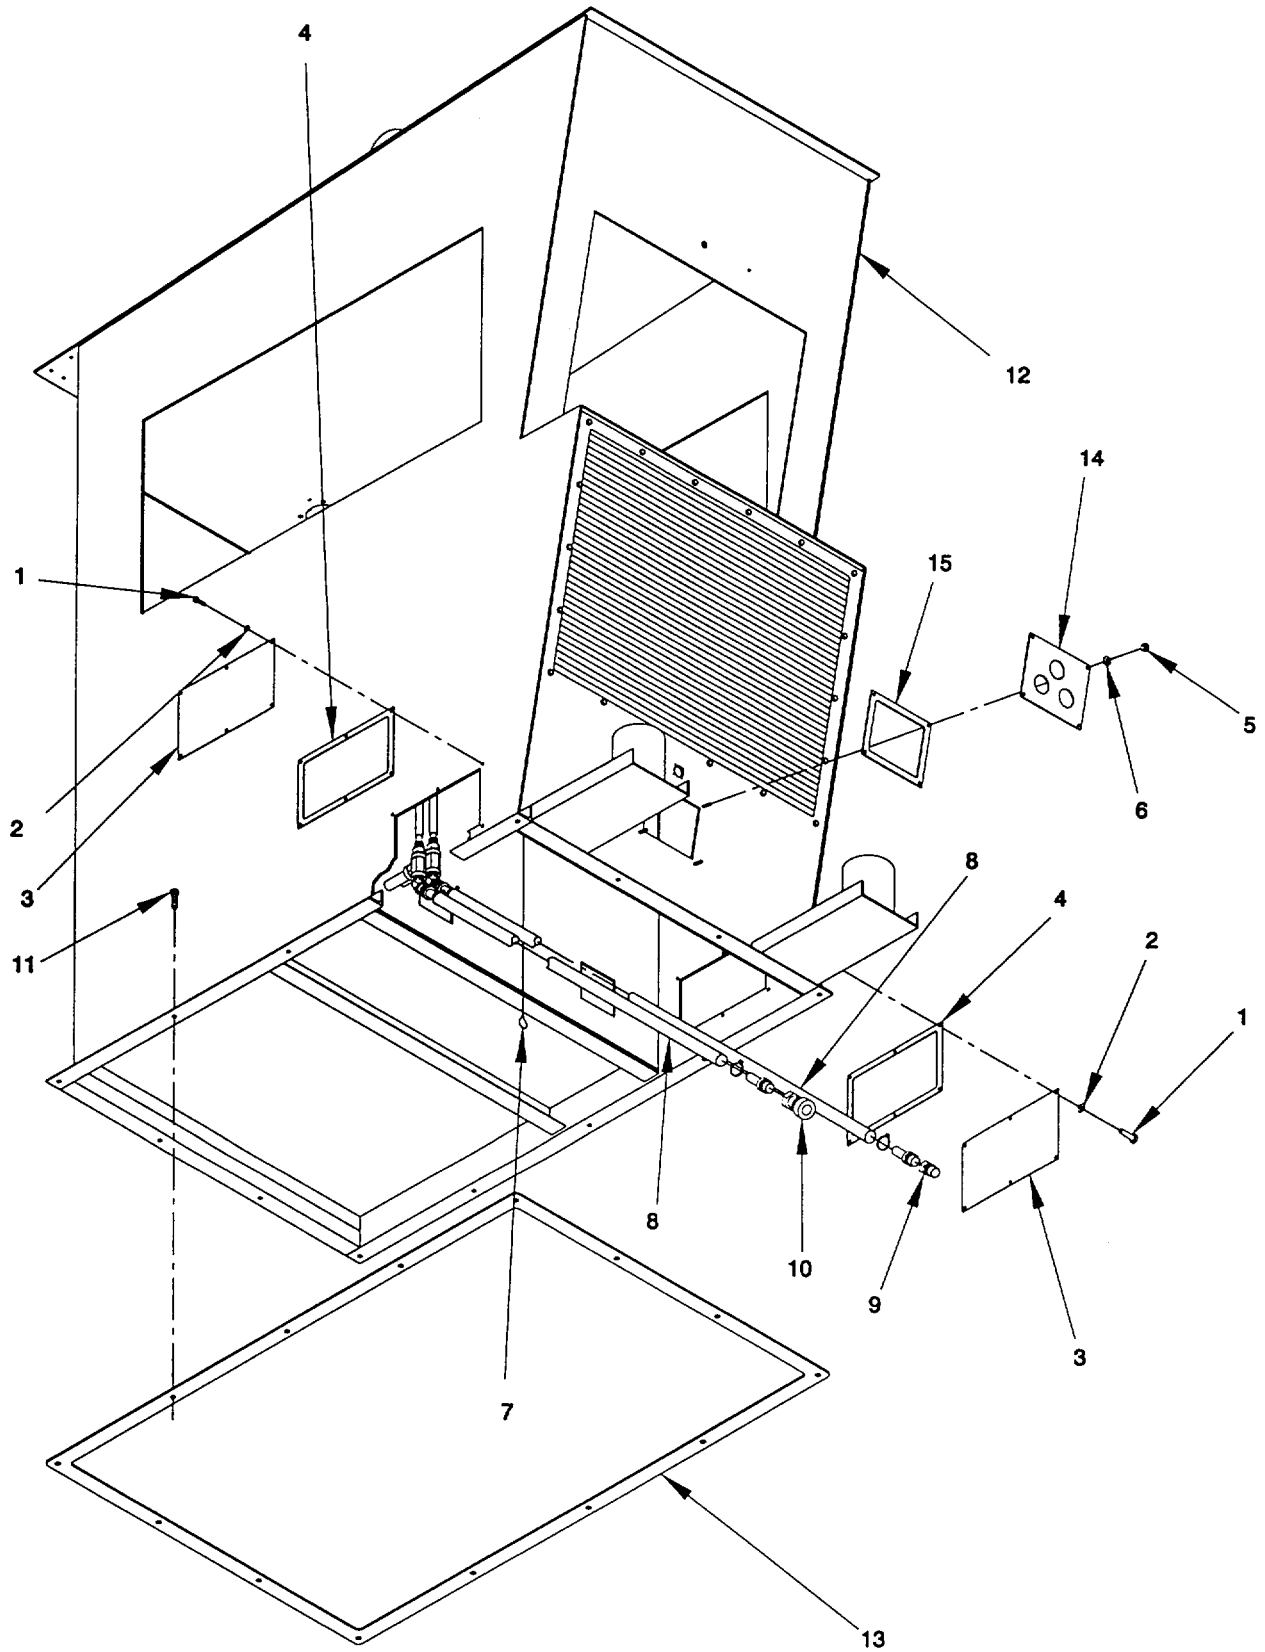

Figure 2-92. Operator Cab Assembly, Remove/install
a. *Remove.* (figure 2-92)
- (1) Remove twelve hex head capscrews (1) and twelve lockwashers (2) to remove two access covers (3) and two gasket (4).
- (2) Tag and disconnect the six electrical connectors (Port P1, P2, P3; Stbd P1, P2, P3) connecting the cab to the powered modules. Refer to Appendix G.
- (3) Remove four hex nuts (5) and four lockwashers (6) to remove module electrical interconnect assembly from the cab.
- (4) Disconnect the wire rope assembly (7) from the fire suppression pressure trip.
- (5) Disconnect the two heater hose assemblies (8) from the diesel engine at the male quick disconnect (9) and female quick disconnect (10).
- (6) Remove fourteen hex head capscrews (11) securing cab assembly (12). Using adequate lifting devices, remove the cab assembly (12) and gasket (13).
- (7) For shipment of the assembled cab (12), the interconnect cover (14) and gasket (15) cover the access opening for the module electrical interconnect assembly.
b. *Install.* (figure 2-92)
- (1) Position gasket (13) on module and lower cab assembly (12) using adequate lifting devices. Secure cab assembly (12) with fourteen hex head capscrews (11).